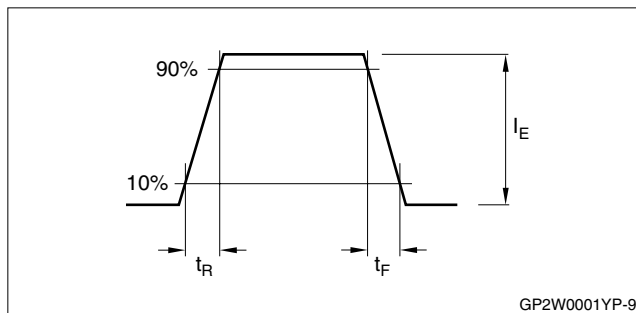

Figure 9. Output Waveform Specification (Emitter Side)
- BR = 115.2 kbps,  $\phi \leq 15^\circ$ ,  $V_{CC} = 3\text{ V}$ ,  $R_L = 2.2\ \Omega$ ,  $V_{INTX} = 2.7\text{ V}$ ,  $R_2 = 1\text{ k}\Omega \pm 5\%$ ,  $CX_2 = 1,500\text{ pF}$ . See Figures 9, 10, and 11.